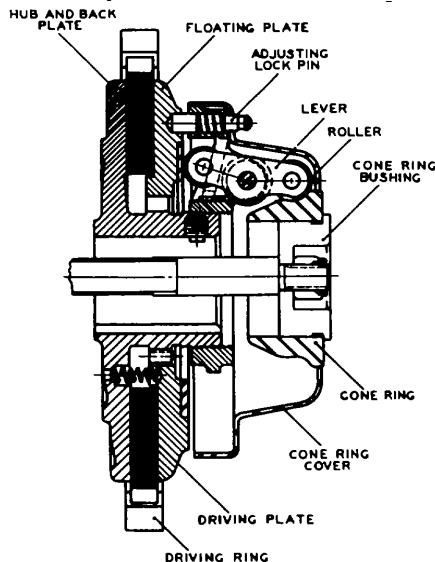

Figure 4
- (1) After extended service, the function type clutch, Figure 4, may need adjustment to restore the original operating efficiency.
- (2) To determine the proper clutch tension, shut off the power and engage the clutch several times. When correctly tensioned, there will be a definite snap to the clutch lever when engagement is made.
- (3) To increase clutch tension, release the clutch, pull the spring loaded adjusting lock pin outward and revolve the cone ring cover and cone ring assembly in a clockwise direction, Figure 4. A series of adjustment holes are provided around the outer face of the tension plate. For best results, revolve the assembly in increments of one space at a time.
- (4) After adjusting the cone ring cover and cone ring assembly by one increment, re-engage the adjusting lock pin with the floating plate. Engage the clutch and check for proper tension by operating the machine under power. No slipping should occur. If required, continue to adjust